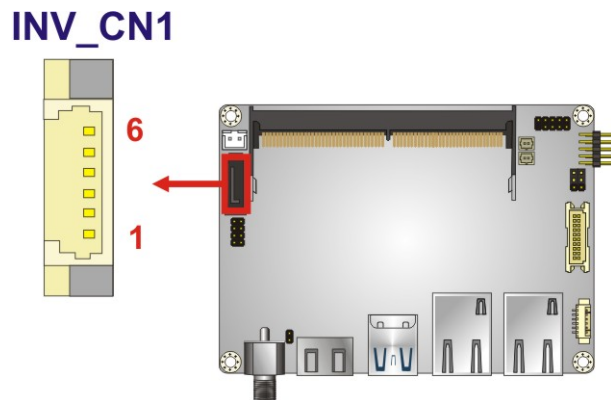

Figure 3-10: Backlight Inverter Connector Location
- CN Location:** See **Figure 3-10**